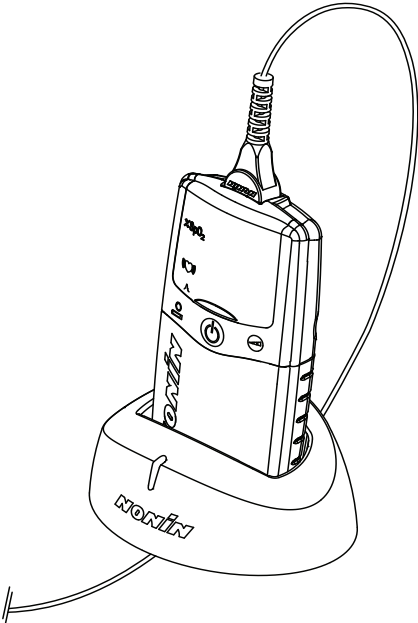

Figure 3: Using the PalmSAT Pulse Oximeter while Charging the Battery Pack
- You can use the PalmSAT Pulse Oximeter while it is charging in the stand. For added stability, route the sensor cable under the charger stand as shown in Figure 3.